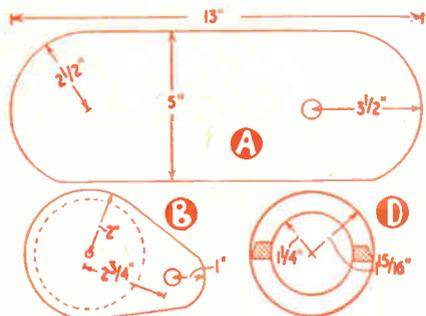

Fig. 2
is cut from ½in. wood, the dimensions being shown in Fig. 2, which also gives details of pieces (B) and (D). Cut these from ½in. wood and shape piece (D) to the section shown. Note that the flex goes through the small hole in piece (B).